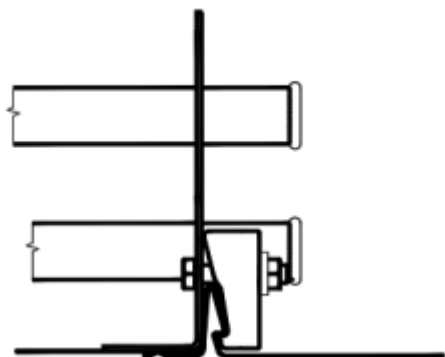

Figure 2.
- Install the RP-bracket plate, positioning it on one side of the roof seam such that the RP-bracket plate is in a vertical position (Figure 2).
- Place the RP-bracket on the other side of the seam (Figure 2).
- Each RP-bracket plate must be fastened together with the RP-bracket (Figure 2).
- Screw together using an M8x35 mm bolt and M8 nut and washer (Figure 2).
- Tighten the screws such that the RP-bracket plate holds firmly on the roof material (Figure 2).